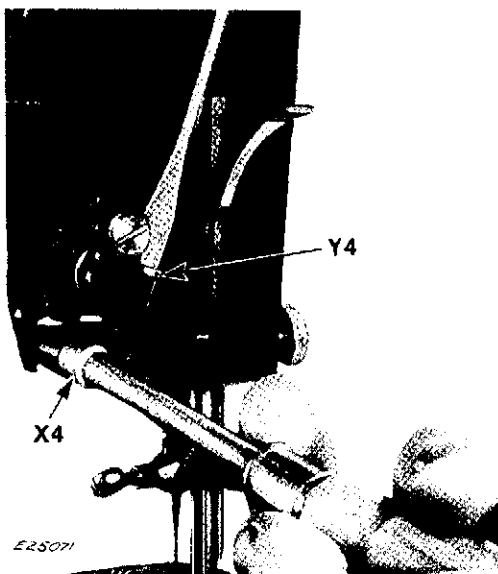

Fig. 67. Location of
2. Using a 1/4 inch spin type box wrench, remove nut from eccentric stud at **X4**, **Fig. 67**.